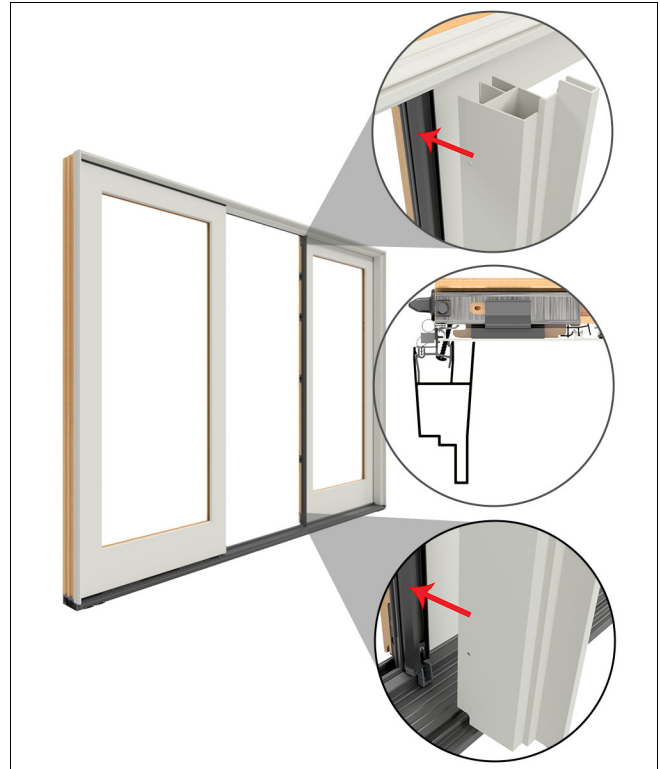

Figure 48
21. Install the screen stop onto the mull base and pound into place with a heavy rubber mallet. See Figure 48.